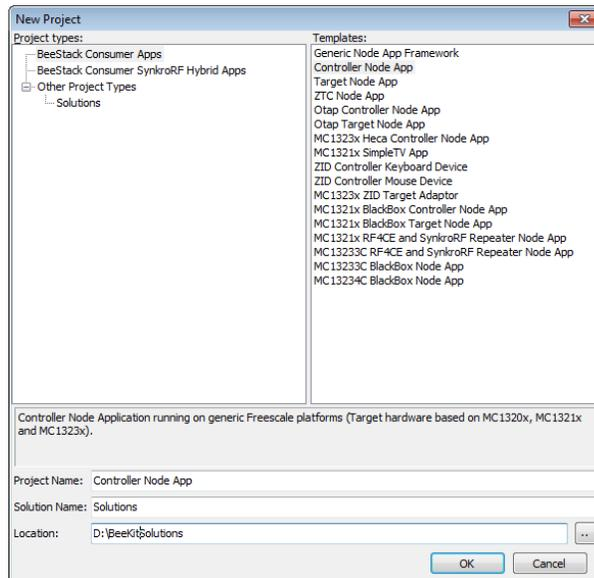

Figure 2-2. Project/Template Select
5. As shown in Figure 2-2, select the Controller Node App template.